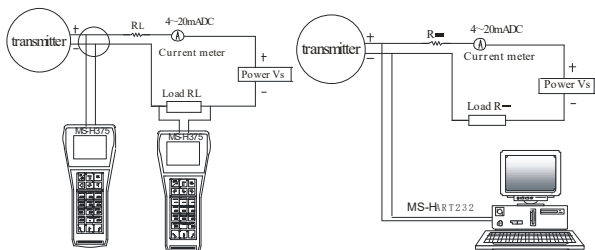

Fig. 9
c) Wiring for HART transmitter connecting with hand-communicator. to see Figure 9: